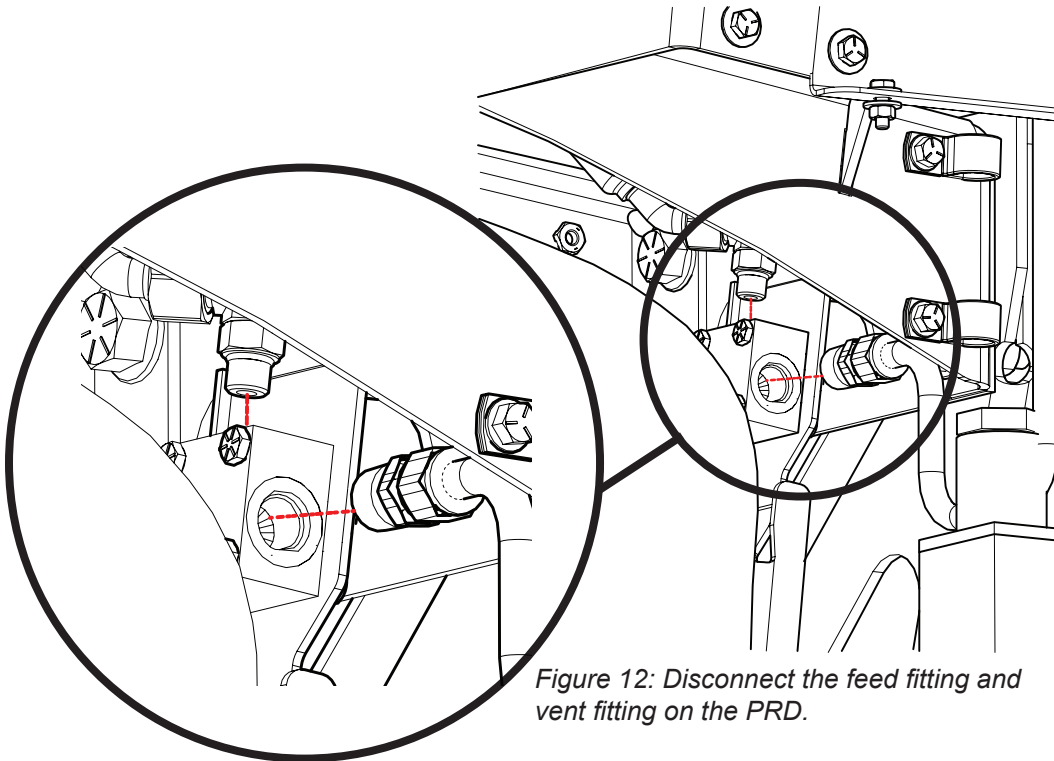

Figure 12: Disconnect the feed fitting and vent fitting on the PRD.
4. Disconnect the two fittings (feed fitting and vent fitting) from the PRD block (Figure 12). The vent fitting and the vent line can be removed from the assembly and set aside for reconnection. The feed line can dangle.